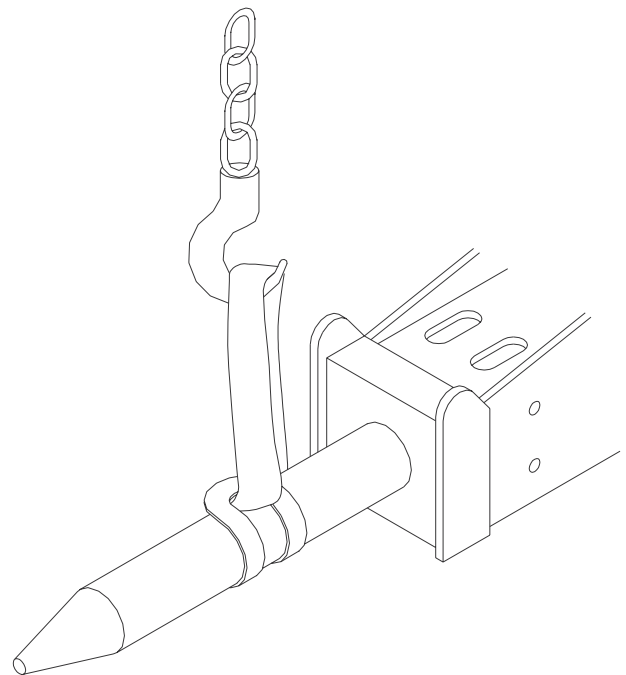

Figure 8-2. Lifting Demolition Tool
6. Using a hoist, lift the demolition tool and insert it, turning it until the retainer bars can slide easily into the slots on the demolition tool. See Figure 8-2.
10. Using a hoist, lift the demolition tool and insert it into its bore, turning it until the retainer bars can slide easily into the slots. Refer to Figure 8-2.
4. Using a hoist, remove the demolition tool from the Hy-Ram. Refer to Figure 8-2.
8. Using a hoist, remove the demolition tool from the Hy-Ram. Refer to Figure 8-2.